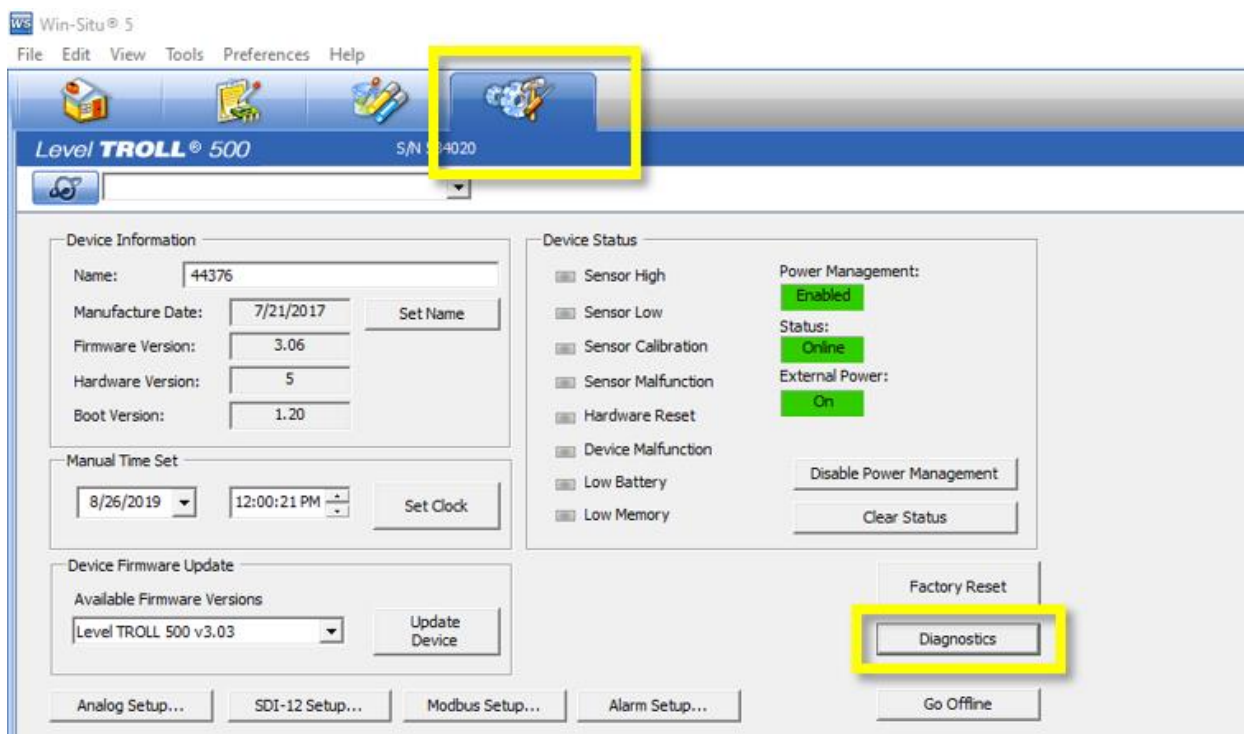

Figure 8. Navigate to the Settings Tab and Select Diagnostics to Check Internal and External Voltage
1. Check the internal and external voltage by navigating to the **Settings** tab in WinSitu and selecting the **Diagnostics** button (Figure 8). This is the same for both the Aqua and Level TROLL.